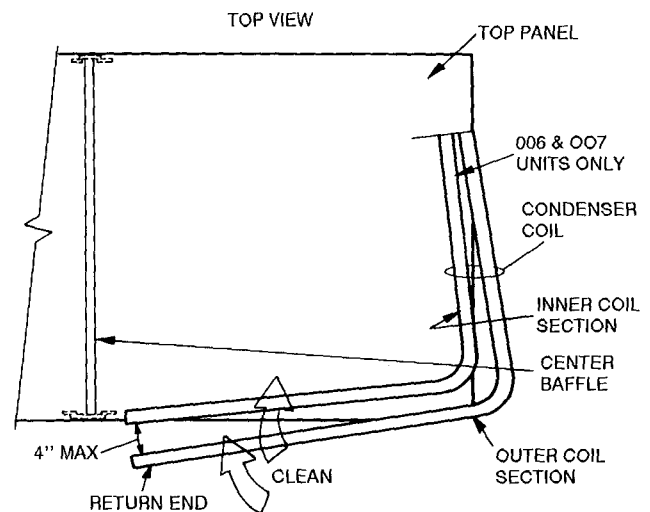

Fig. 15 — Separating Coil Sections
4. Remove device holding coil sections together at return end of condenser coil. Carefully separate the outer coil section 3 to 4 in. from the inner coil section. See Fig. 15.